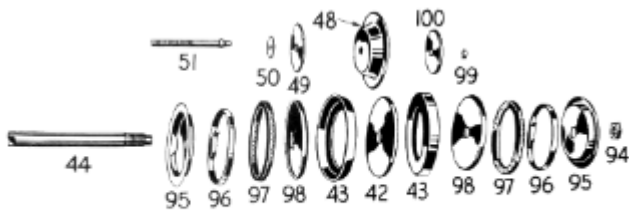

Figure 30
107. Remove piston rod nut (94) and disassemble pistons. (See Figure 30.)